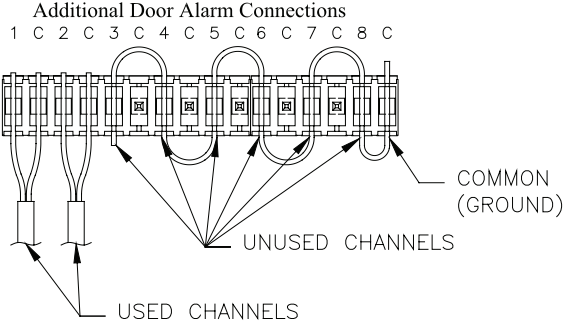

Figure 10: Grounding Unused Channels
- 5. If the door alarm connections are not being used or if there are unused channels, these need to be tied to ground. Loop a 22 or 24 AWG wire in and out of the unused channels. Punch this wire down in each. Loop the last end of the wire down into one of the common connections and punch it down. See Figure 10.